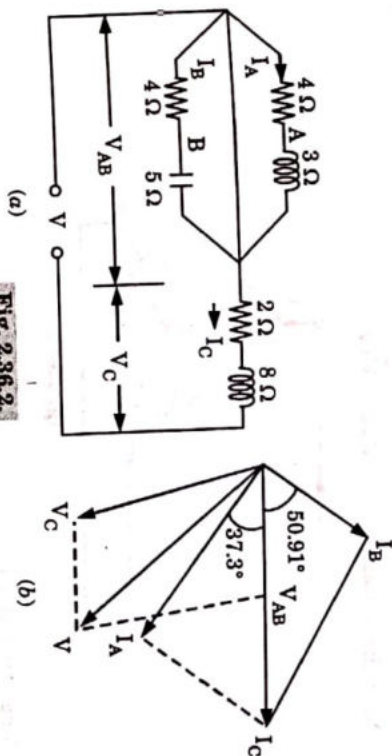

Fig. 2.36.2
9. Various voltages and currents are shown in Fig. 2.36.2. Powers would be calculated by using voltage conjugates.